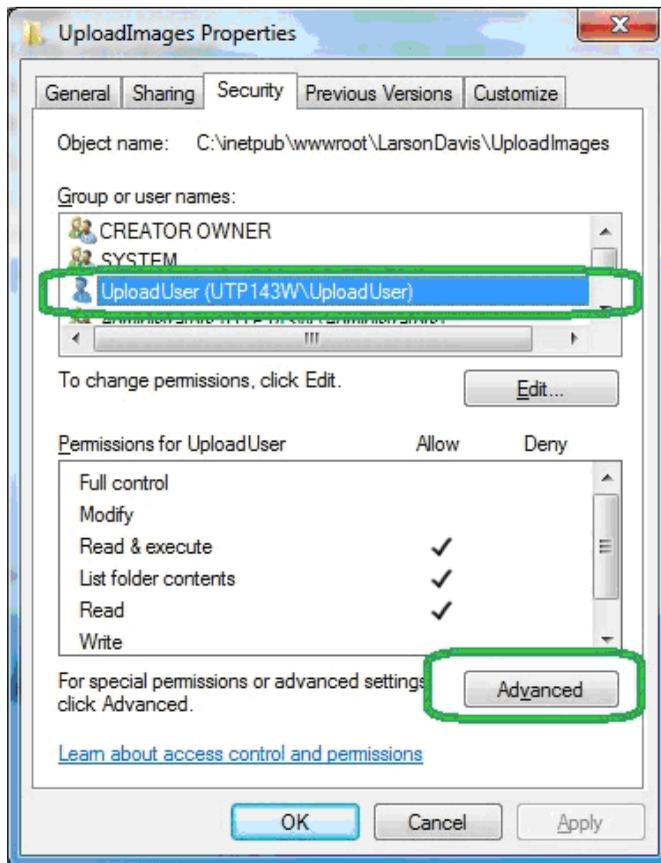

FIGURE 2-28 UploadImages Properties - Advanced
Step 29 On the **Security** tab of the **Properties** dialog box, click the user account name, or the default name **UploadUser**, if applicable, as shown in FIGURE 2-28.